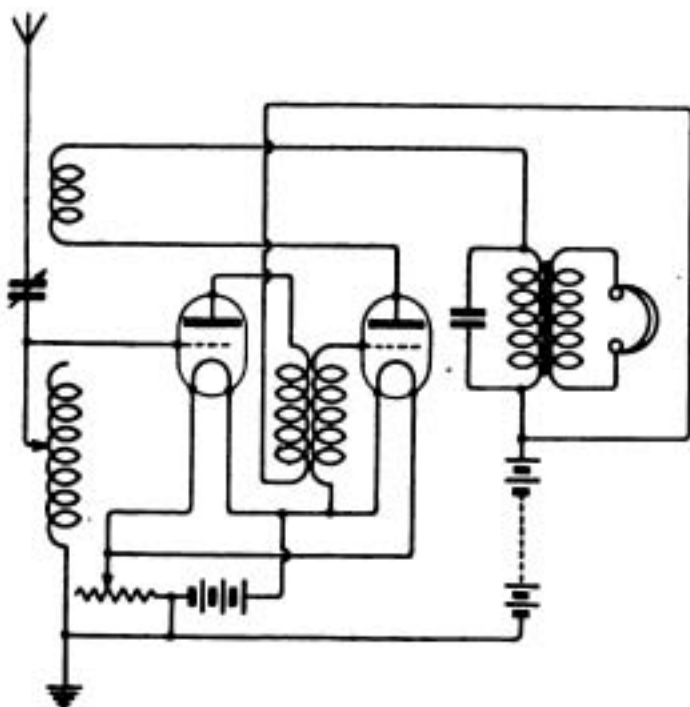

Fig. 2.
**L.G. (Weston-super-Mare).**—(1) No. 22, 6,750 ms. singly, and No. 24, 8,600 ms. singly. Approximately 12,000 ms. with the two coils in series and the condenser across both.
(2) It will be only just audible.
(3) Try the circuit of Fig. 2 without a crystal. Wind the intervalve transformer for a best wavelength of 1,000 ms.
(4) For a V.24, 24 to 40 volts. For an R.40 to 60 volts, according to the make.
**F.H. (Hammersmith).**—(1) Yes, a good arrangement.